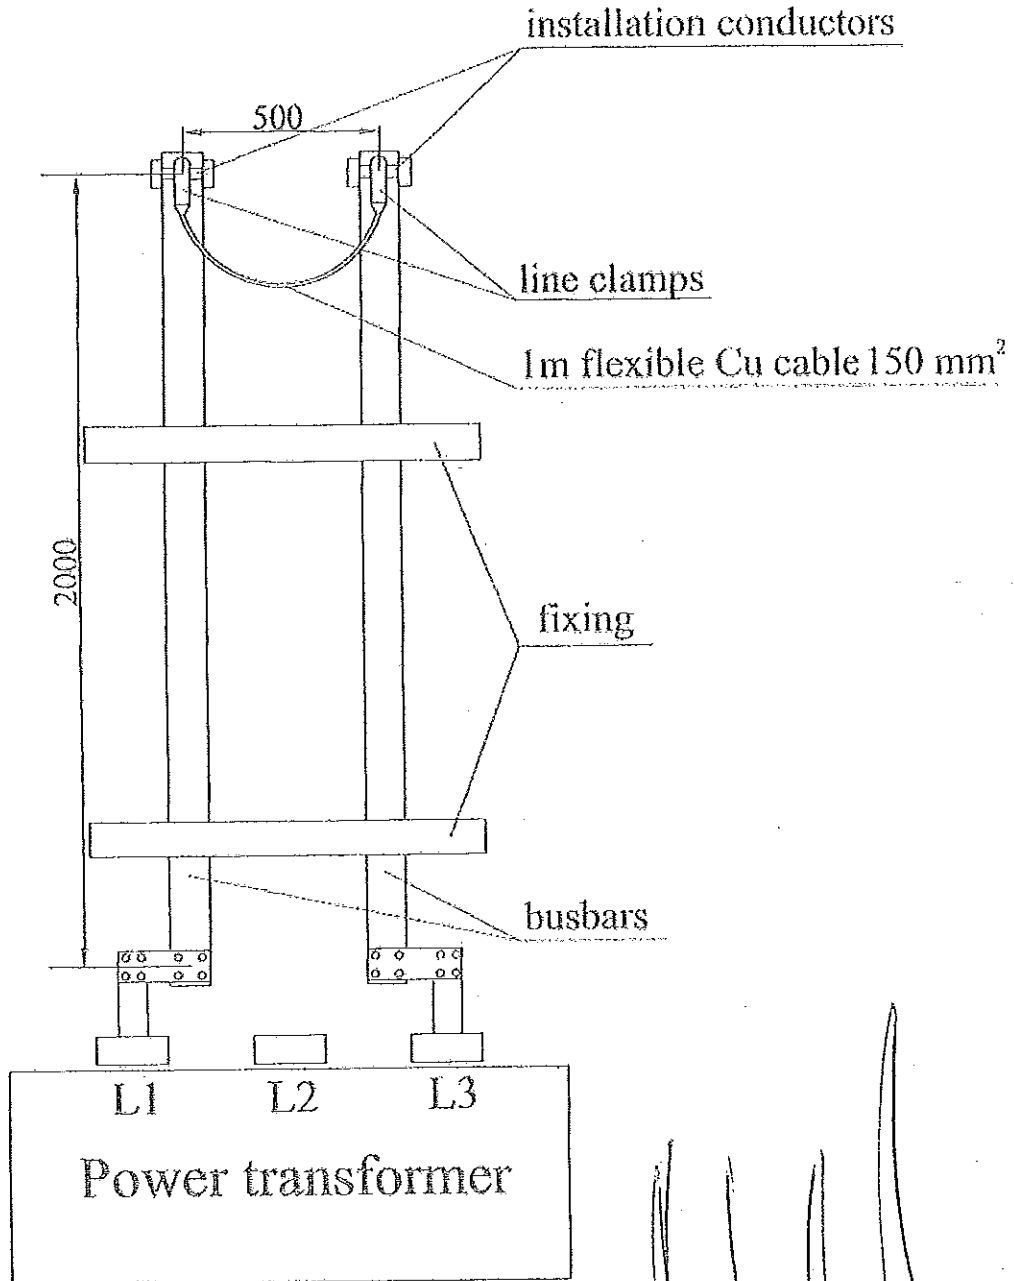

Figure 3
Short-circuit current tests were carried out on line clamps type 507 006 for short-circuiting device. For the tests installation circular conductors were used in test arrangement according to Figure 6a of the standard (See: Figure 3). The drawing of the tested clamps given by the manufacturer is enclosed to the test report. Before the commencement of the tests the identification of the test samples was made. The applied flexible copper short-circuiting cable was not part of the test objects.
Short-circuit current tests were carried out on four new line clamps for short-circuiting device. The test arrangement consisted of installation conductors, line clamps and short-circuiting cable. The preconditioning of clamps was performed before the short-circuit current tests. The tests were carried out in accordance with the referred standard. The scheme of the test circuit is shown in Figure 1. The applied test arrangement can be seen on Photos 1, 3 and in Figure 3.
- Test arrangement : Figure 3, Photos 1, 3